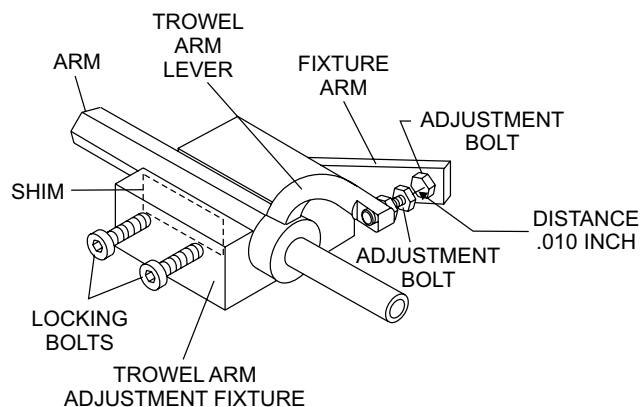

Figure 27. Trowel Arm Adjustment Fixture
3. Next, check the clearance between the round shaft and the test surface as one of the flat hex sections of the arm rests on the test surface. Rotate the arm to each of the flat hex sections and check the clearance of the round shaft. Use a feeler gauge (Figure 27) of .005 inch (0.127 mm). Each section should have the same clearance between the round of the trowel arm shaft and the test surface.
1. Unscrew the locking bolts on the adjustment fixture and place the trowel arm (lever attached) into the fixture channel as shown in Figure 27.
5. Adjust the bolt distance shown in Figure 27 to match one of the arms. The other arms will be adjusted to match this distance.